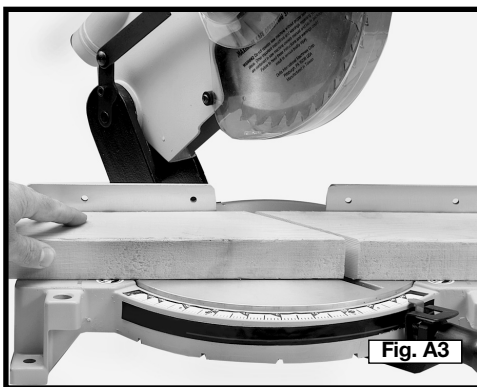

Fig. A3
2. A standard 2 x 6 can be cut in the 90 degree straight cut-off position in one pass (Fig. A3).